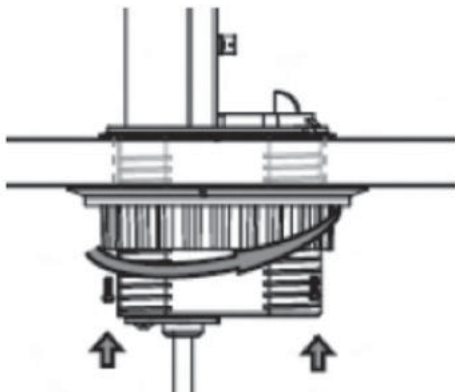

Fig. 2
- Insert the product through the hole, place into desired orientation, tighten the mounting collar to the underside, and secure using the three screws provided (see Fig. 2)